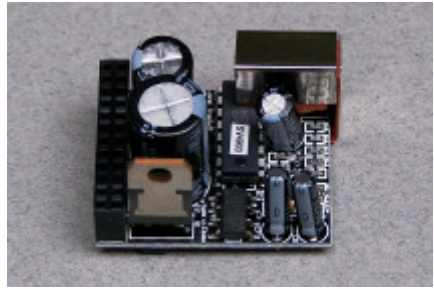

Fig. 2b. Railsounds Power Supply
- Insert the Railsounds Power Supply Board into its socket. This board can be identified with the help of figure 2b.